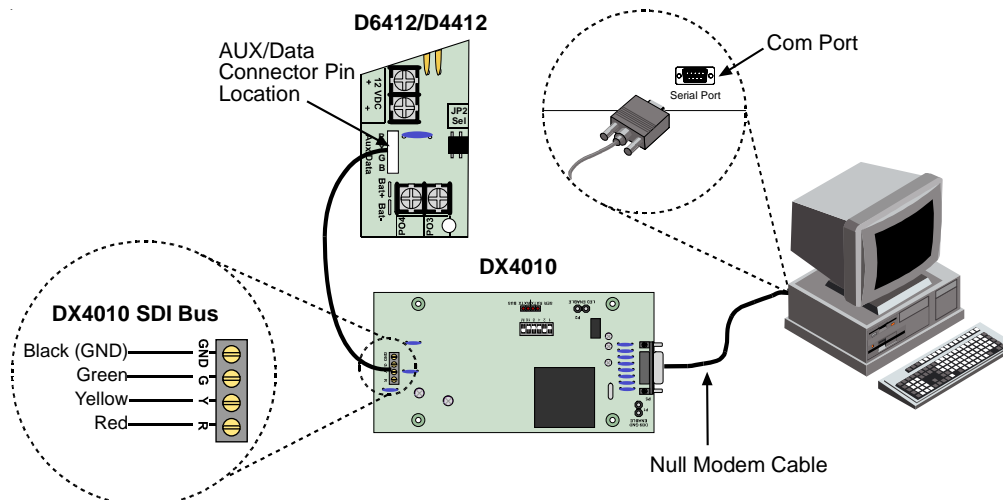

Figure 39: Creating a RAM IV Direct Connection
3. Wire the flying leads of the colored cable connector (included with panel) to the DX4010's SDI Bus terminals. Plug the connector end onto the D6412/D4412. See *Figure 39* for details.